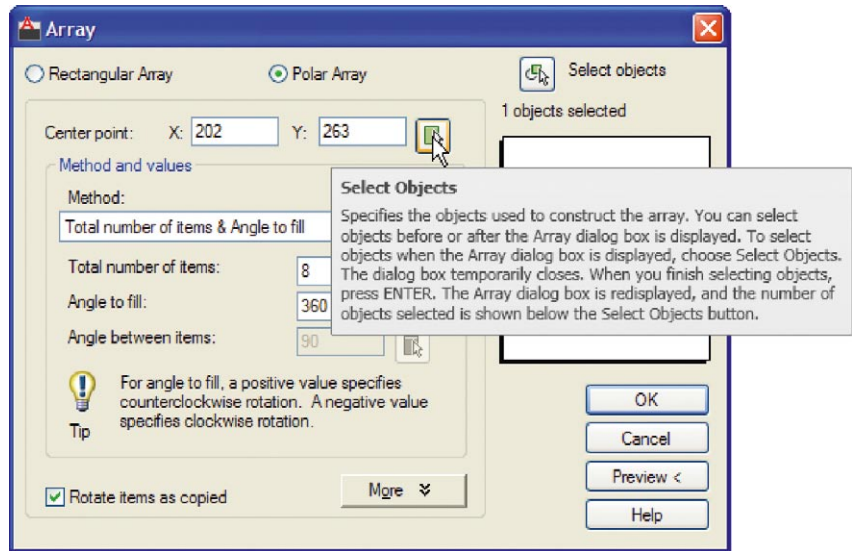

Fig. 5.21 Second example – Array – the Pick Center point button
3. Click the **Select objects** button of the dialog and window the drawing. The dialog returns to screen. Click the **Pick Center point** button (Fig. 5.21) and when the dialog disappears, *pick* a centre point for the array.